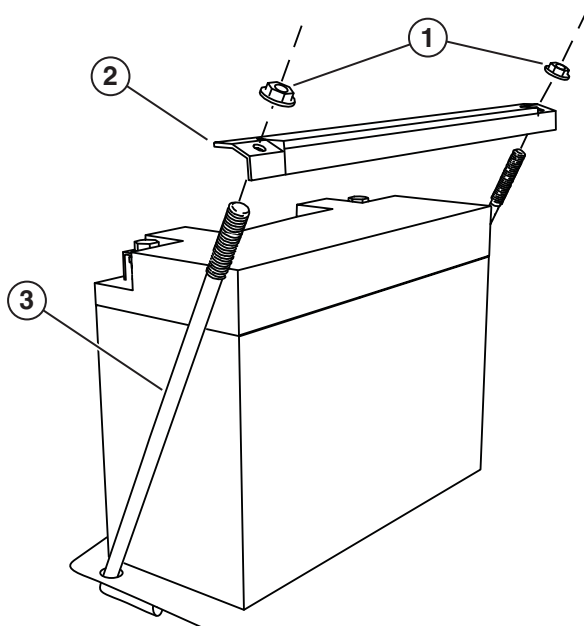

Figure 7-24
2. Loosen and remove the nuts on the battery hold-down plate and remove the plate from the support rods (see *Figure 7-24*).